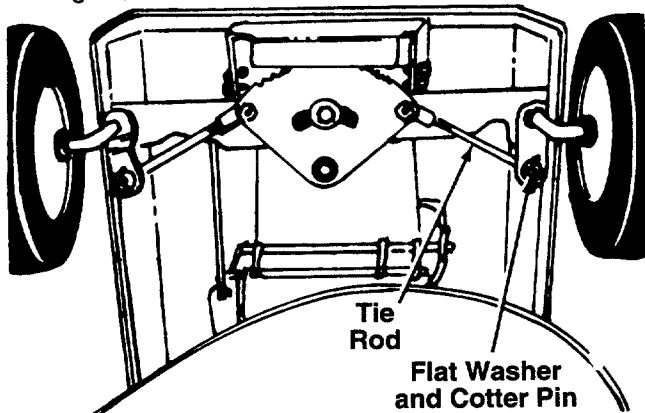

FIGURE 7.
The caster (forward slant of the king pin) and the camber (tilt of the wheels out at the top) require no adjustment. Automotive steering principles have been used to determine the caster and camber on the mower. The front wheels should toe-in  $1/8$  inch. See figure 7. To adjust, follow these steps:
1. Remove the cotter pin and flat washer which hold the tie rod to the axle bracket. See figure 7.